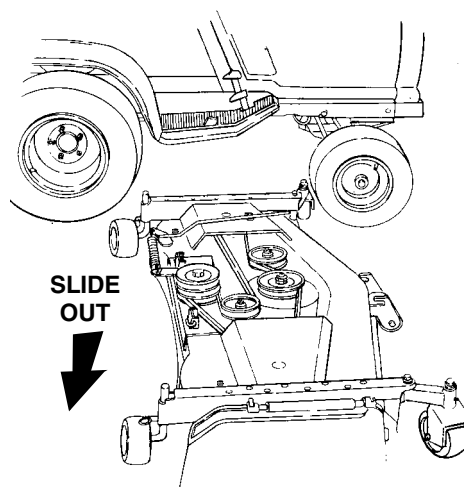

Figure 49
11. With the tractor implement lift handle raised to its highest setting, slide the deck to the right and out from under the tractor (Refer to Figure 49).